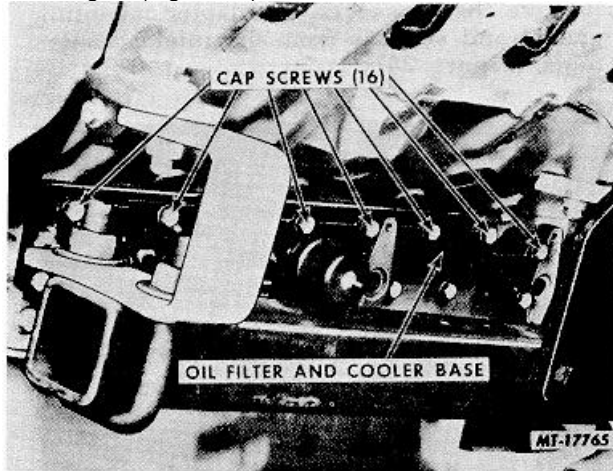

Fig. 22 Removing Oil Filter Base
8. Remove both oil filters from oil filter base. Remove filter base capscrews and remove filter base and gasket from engine (Figure 22).